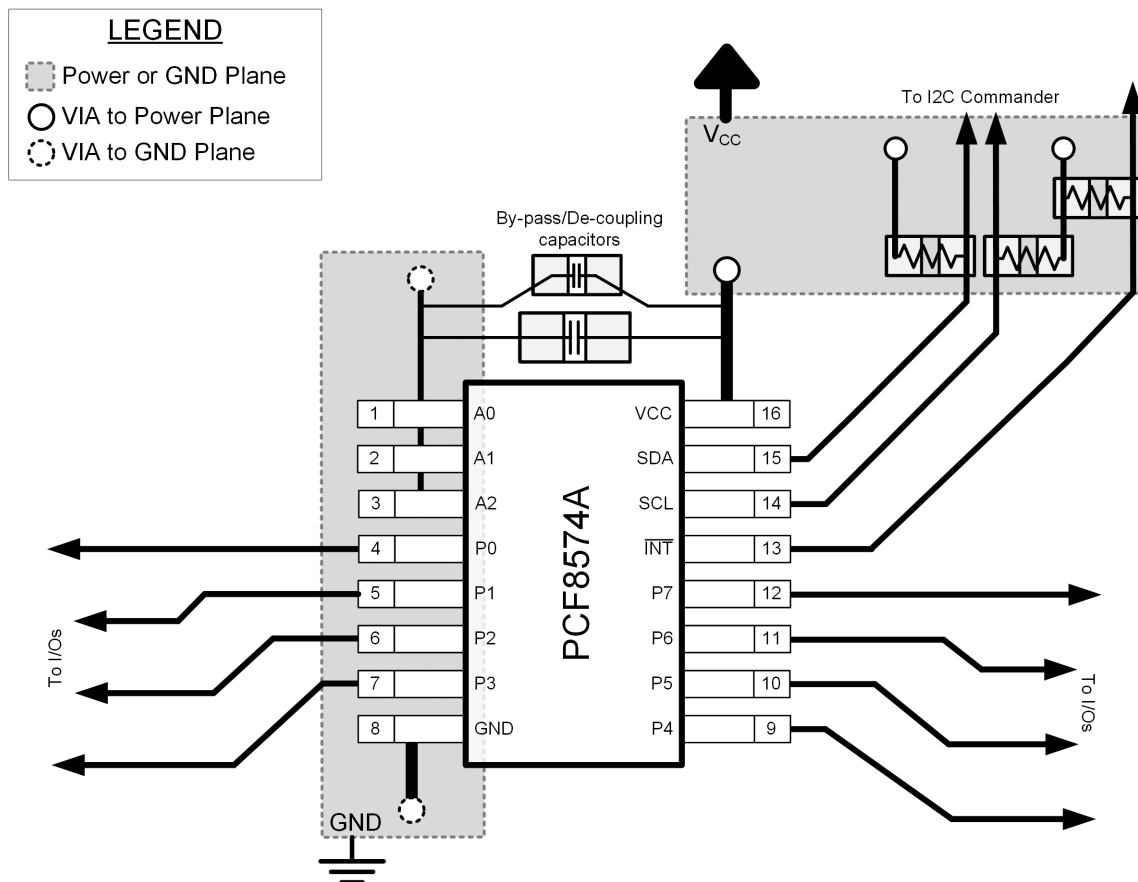

Figure 11-1. Layout Example for PCF8574A
When the I/Os are used to control LEDs, normally they are connected to V_{CC} through a resistor as shown in Figure 11-1. For a P-port configured as an input, I_{CC} increases as V_I becomes lower than V_{CC} . The LED is a diode, with threshold voltage V_T , and when a P-port is configured as an input the LED will be off but V_I is a V_T drop below V_{CC} .
In all PCB layouts, it is a best practice to avoid right angles in signal traces, to fan out signal traces away from each other upon leaving the vicinity of an integrated circuit (IC), and to use thicker trace widths to carry higher amounts of current that commonly pass through power and ground traces. By-pass and de-coupling capacitors are commonly used to control the voltage on the V_{CC} pin, using a larger capacitor to provide additional power in the event of a short power supply glitch and a smaller capacitor to filter out high-frequency ripple. These capacitors should be placed as close to the PCF8574A device as possible. These best practices are shown in Figure 11-1.
For the layout example provided in Figure 11-1, it would be possible to fabricate a PCB with only 2 layers by using the top layer for signal routing and the bottom layer as a split plane for power (V_{CC}) and ground (GND). However, a 4 layer board is preferable for boards with higher density signal routing. On a 4 layer PCB, it is common to route signals on the top and bottom layer, dedicate one internal layer to a ground plane, and dedicate the other internal layer to a power plane. In a board layout using planes or split planes for power and ground, vias are placed directly next to the surface mount component pad which needs to attach to V_{CC} or GND and the via is connected electrically to the internal layer or the other side of the board. Vias are also used when a signal trace needs to be routed to the opposite side of the board, but this technique is not demonstrated in Figure 11-1.